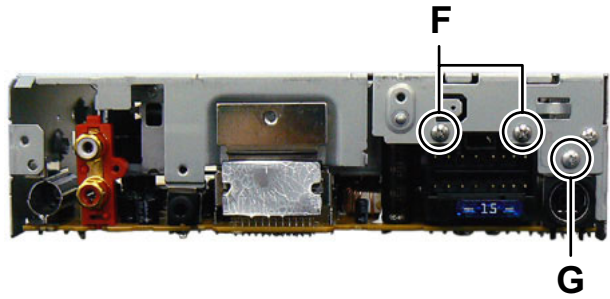

Fig.5
### 3.1.4 Removing the MAIN BOARD assembly (See Fig.5,6)
- (1) Remove the two screws **F** and one screw **G** attaching the MAIN BOARD assembly. (See Fig.5)
- (3) Take out the top cover in an upward direction. (See Fig.5.)